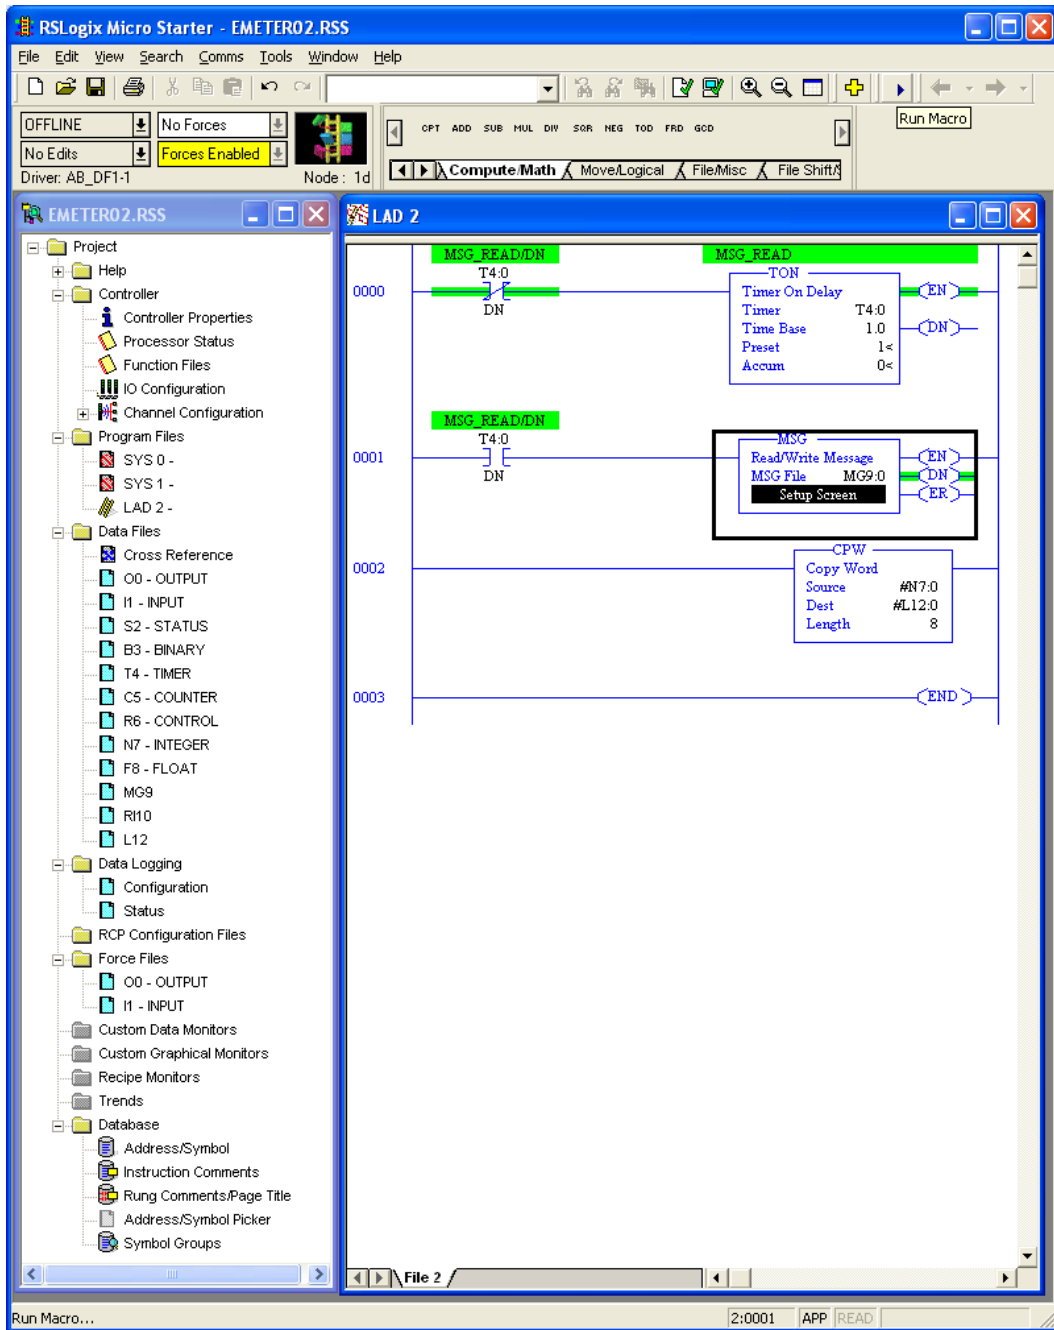

Figure 2. RsLogix Programming Environment.
Within a MicroLogix PLC, communication setup is performed within the RsLogix Programming Environment. Figure 2 displays a screen snapshot of a simple ladder logic program that is designed to poll the two (2) totalization and two (2) flow-rate registers of an EtherMeter, deposit the data into the N7:xx integer (16-bit) registers, and then copy the data into the L12:xx long integer (32-bit) registers: